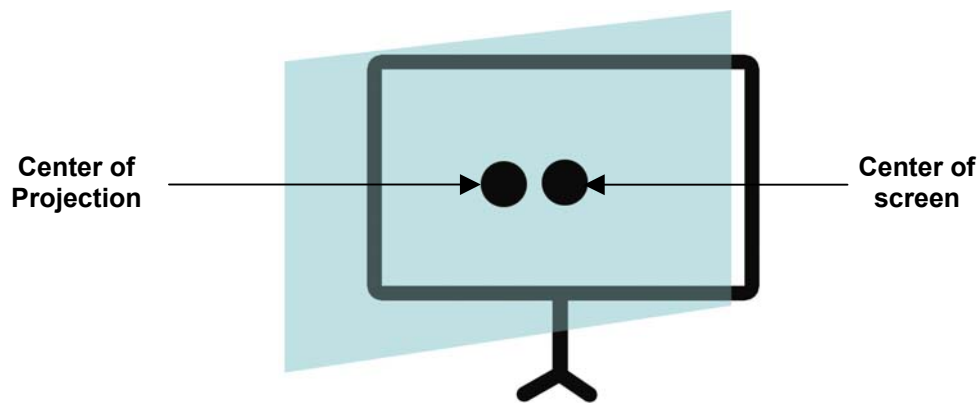

Figure 2. Initial Projection
1. Push the **F2** button on the remote to display the test pattern screen. The initial projection should be larger than the desired screen area (as shown in Figure 2).